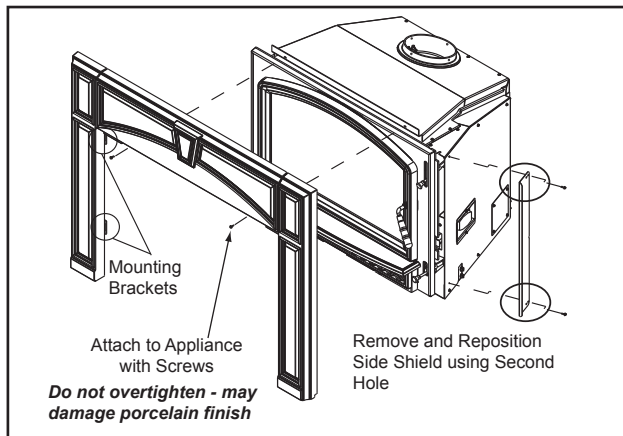

Figure 44.2
5. In order to get a tight seal for the surround, you must reposition a side shield. There are two holes on the shield and it will come from the factory secured in the first (left) hole. Remove the shield and re-install using the second (right) hole. Figure 44.2.